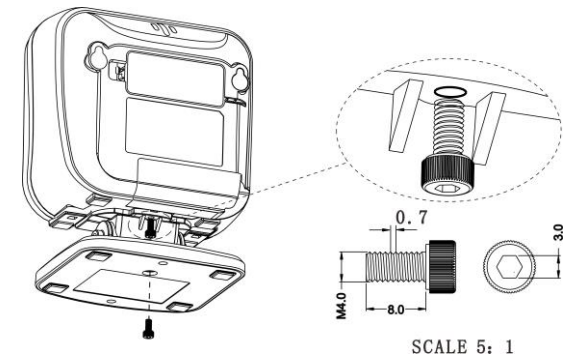

Figure 4
2. As shown in Figure 4, well connect the image platform with the stand by tightening the single screw.